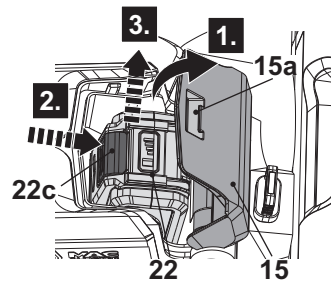

Fig. 10
1. Hold the groove (15a) and open the battery cover (15) (Fig. 10, step 1).
2. Press down the release button (22c) to unlock the latch of battery pack (22) (Fig. 10, step 2).
3. Slide out the battery pack (22) from the battery compartment (Fig. 10, step 3).
4. Close the battery cover (15).